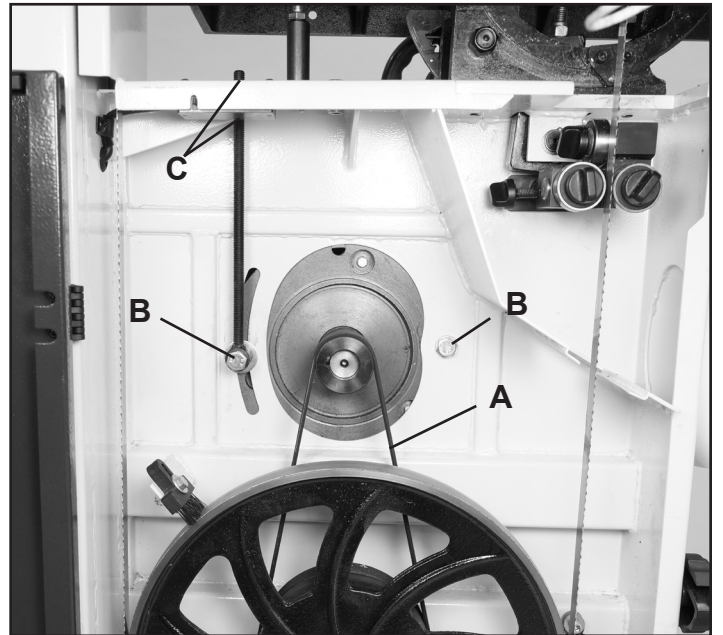
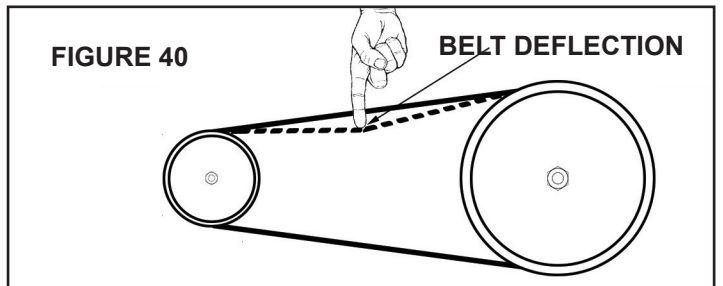

FIGURE 39
FIGURE 40
Check the Drive Belt (#16F, FIG. 39, A) tension with thumb pressure. The drive belt should not give more than 3/8" TO 1/2" in the center. DO NOT over tension the belt as this can put excessive, damaging pressure on the belt, pulleys and motor. Fig. 40.
2. Loosen the Hex Nut on the top of the Motor Pulling Rod (#45A, Fig. 39, C). The motor should now be loose to move downward for adjusting the belt.